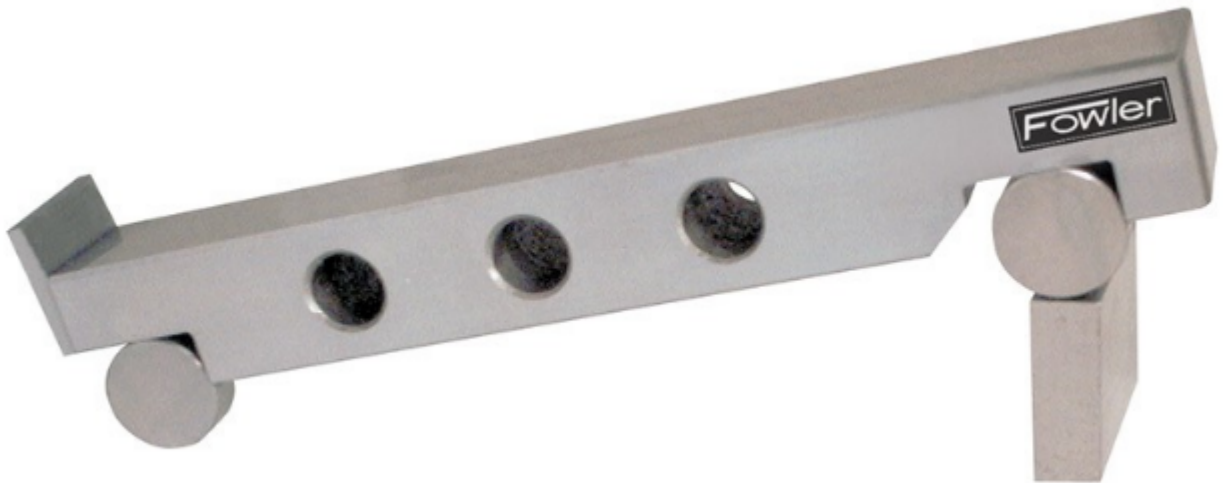

Figure 1. The Sine Bar
- Figure 1 shows a typical sine bar set up on a surface plate with slip gauge blocks of the required height **BC** to form a desired angle Θ .